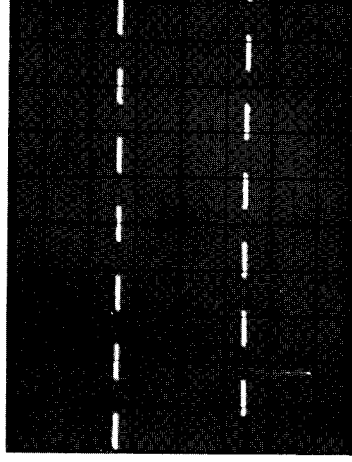

Figure 4a. Normal Display
2. Adjust horizontal POSITION **13** to place portion of waveform to be magnified on center graticule of CRT (figure 4a).